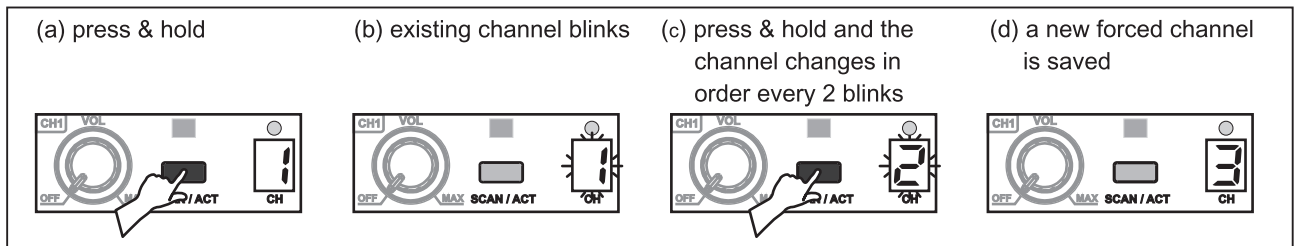

Fig. 5
- (2) Manually Search for a Receiver Channel: Press and hold SCAN / ACT Button to perform a manual channel search. Existing channel blinks to denote it is ready to accept parameter changes. During blinking, press and hold SCAN / ACT Button to force the channel to go forward to the next channel in order. Release SCAN / ACT Button until a desired channel is located. This new channel is now saved. Fig. 5.